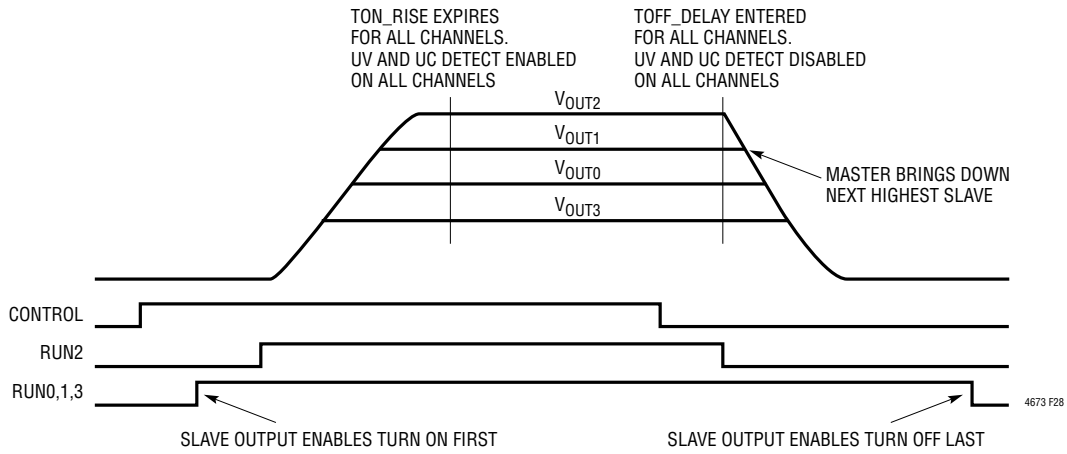

Figure 28. Control Pin Tracking All Supplies Up And Down
The system response to a control pin toggle is illustrated in Figure 28.
For the coincident output tracking shown in Figure 28, the master's output slew rate (MR) is the same as the slave's output slew rate (SR), Equation 13.